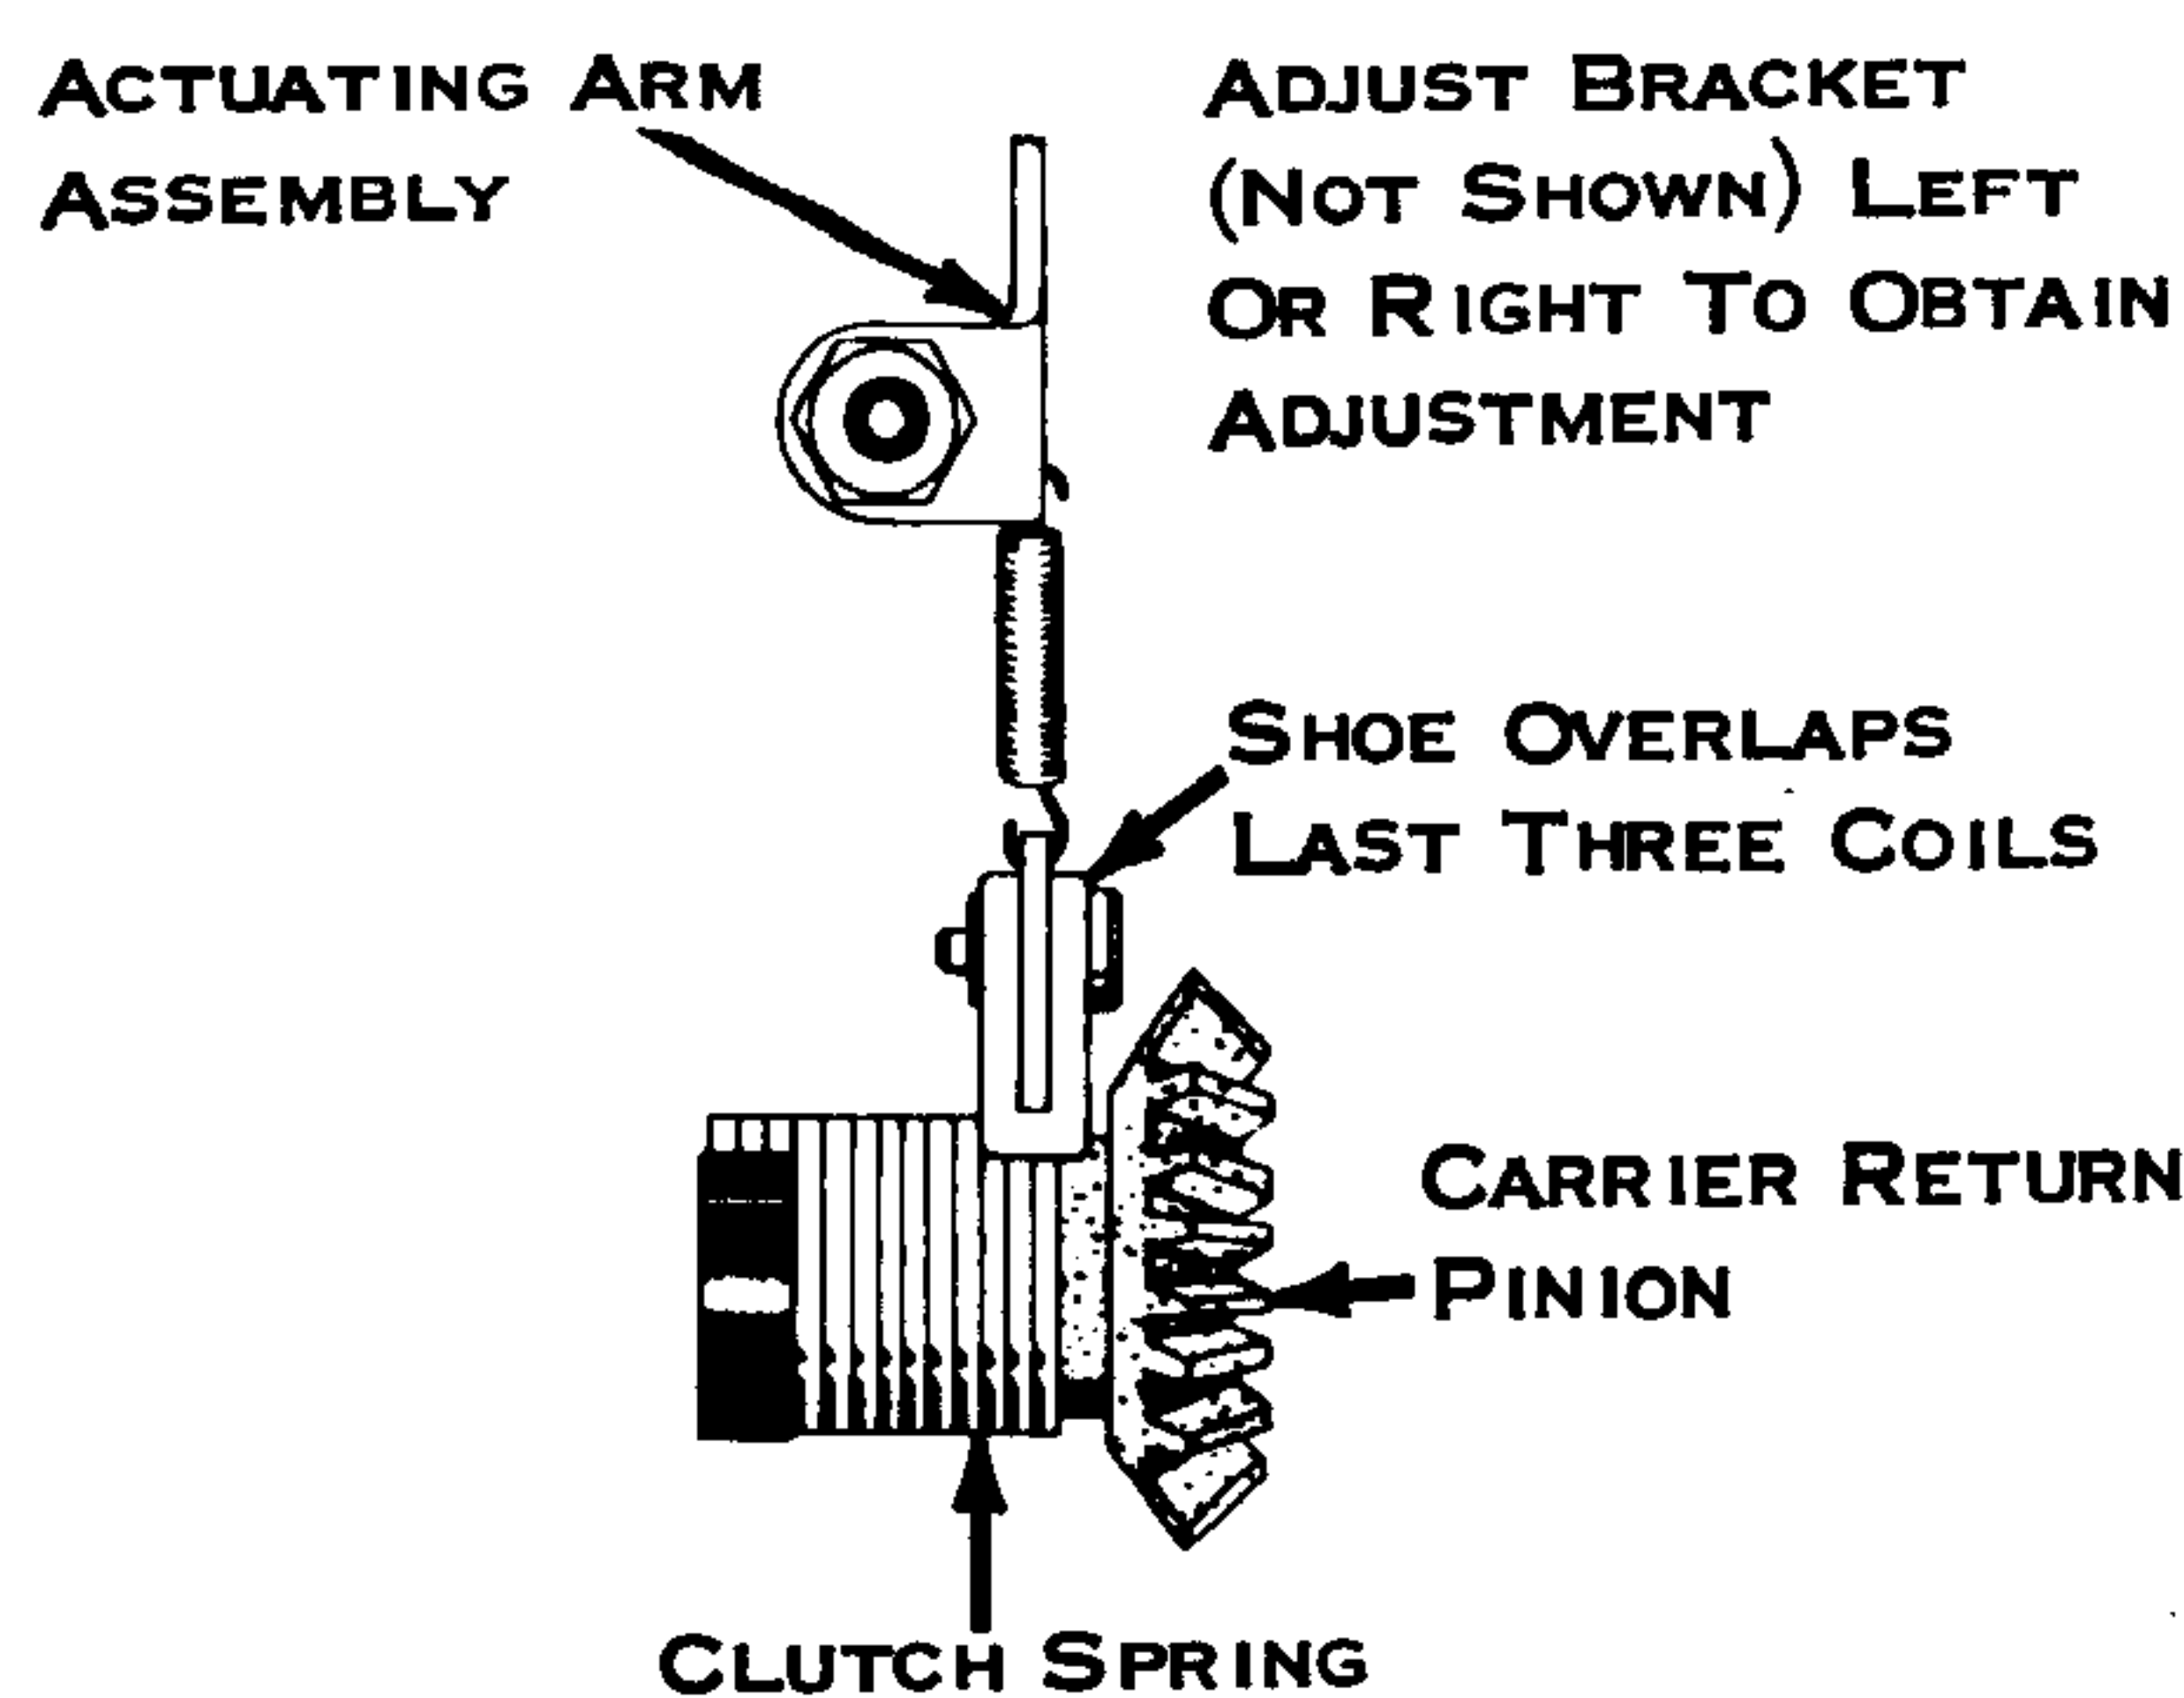

Figure 181. Carrier Return Shoe
- Carrier Return Shoe (Fig. 181) - The carrier return actuating arm bracket should be positioned left or right so that the carrier return shoe overlaps the last three coils on the right hand end of the clutch spring.